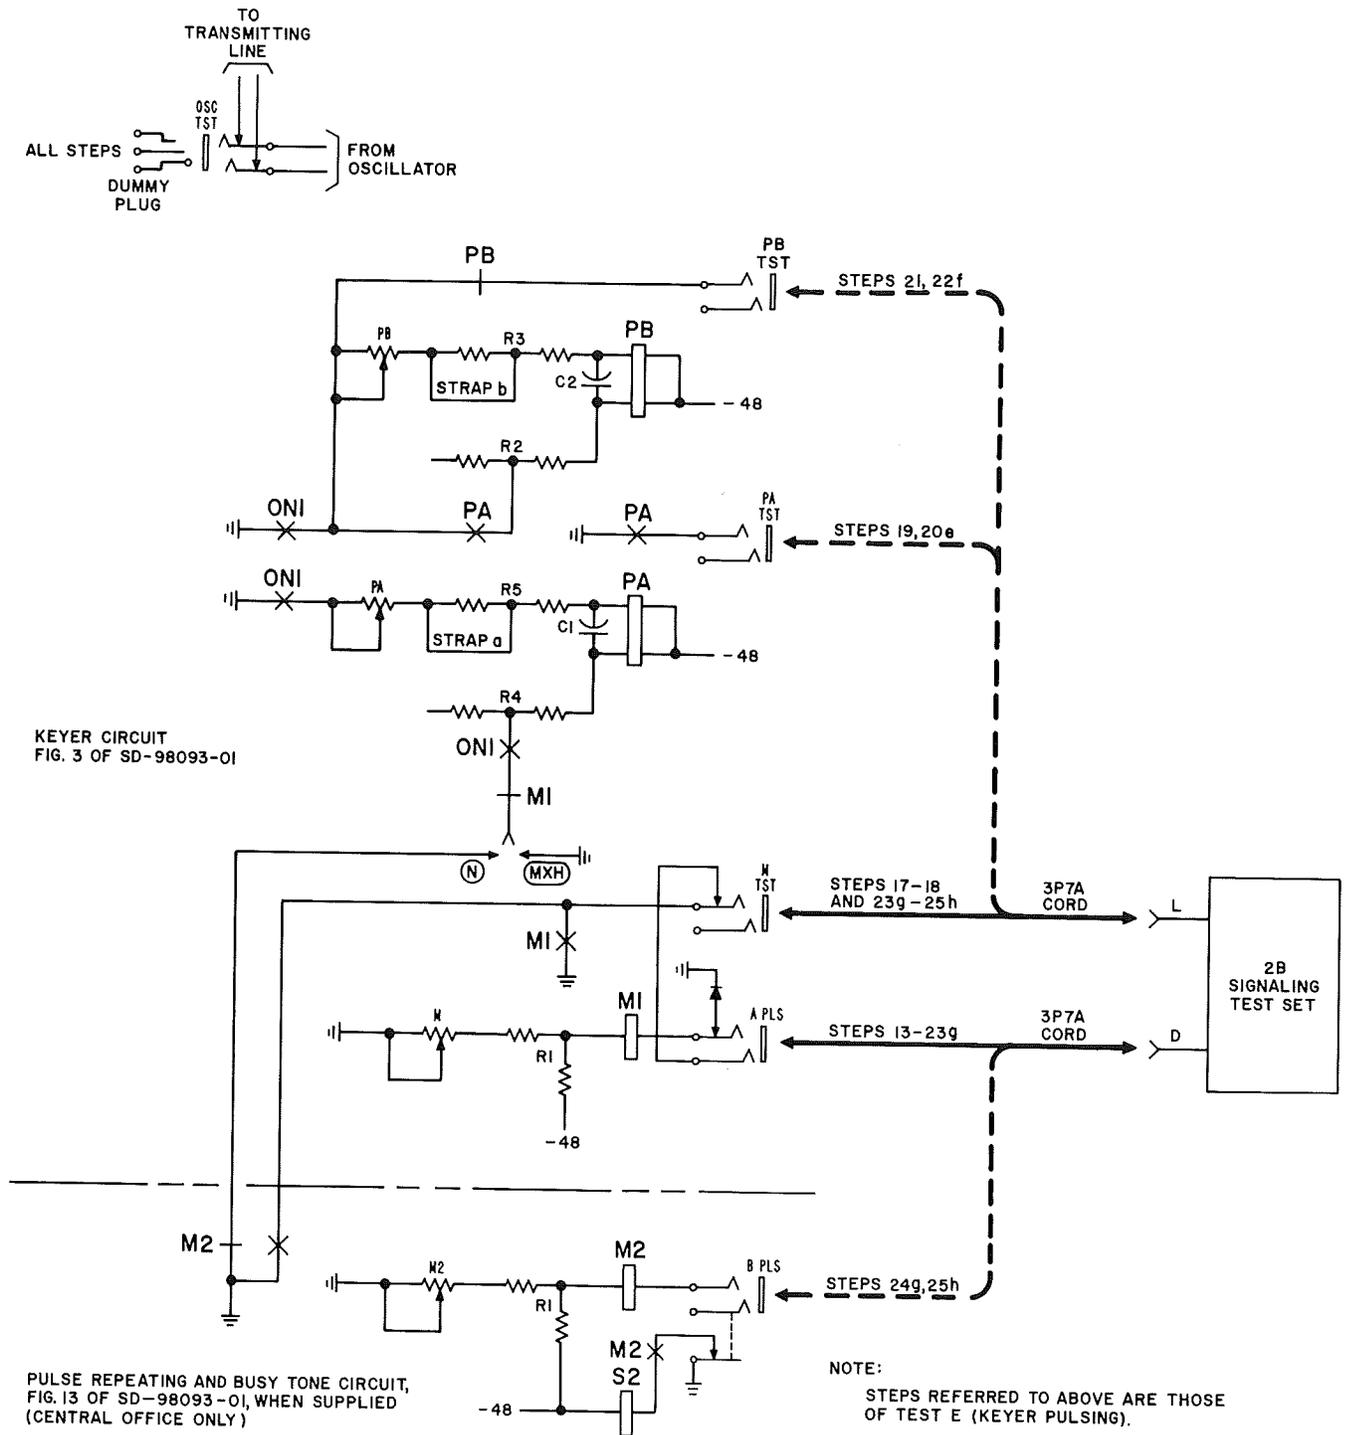

Fig. 1—Keyer Pulsing Test Procedure
- 12 Insert dummy plug into OSC TST jack of keyer. See Fig. 1 for keyer pulsing test setup.